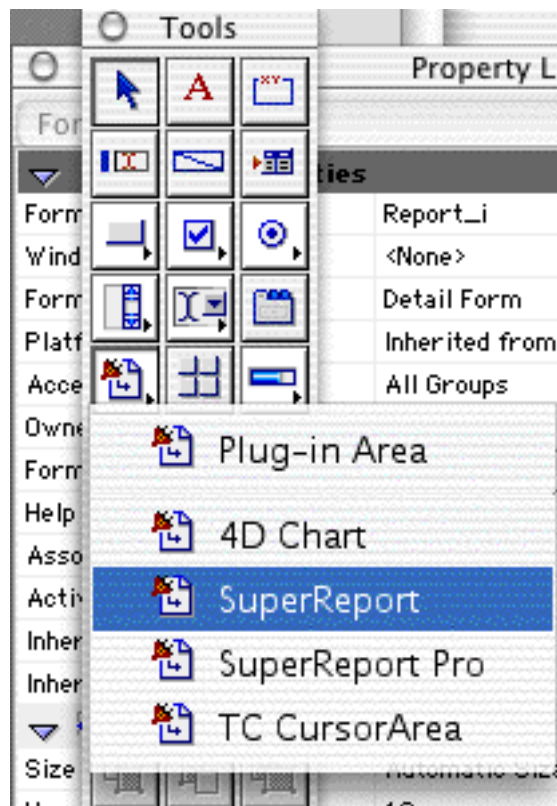

Figure 9 — Object Properties Palette using SuperReport area
- Step 2:** Create a new plug-in object using the 4th Dimension **Property List** (Figure 9).